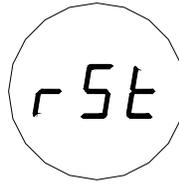

Figure 14: Relay Reset
- The relays can be reset by using a magnet. To do this, place the magnet over the GM logo on the cover of the unit. After 3 seconds, the display shows “rSt”. After the LED displayed this code, remove the magnet. The relays are now reset (Figure 14).